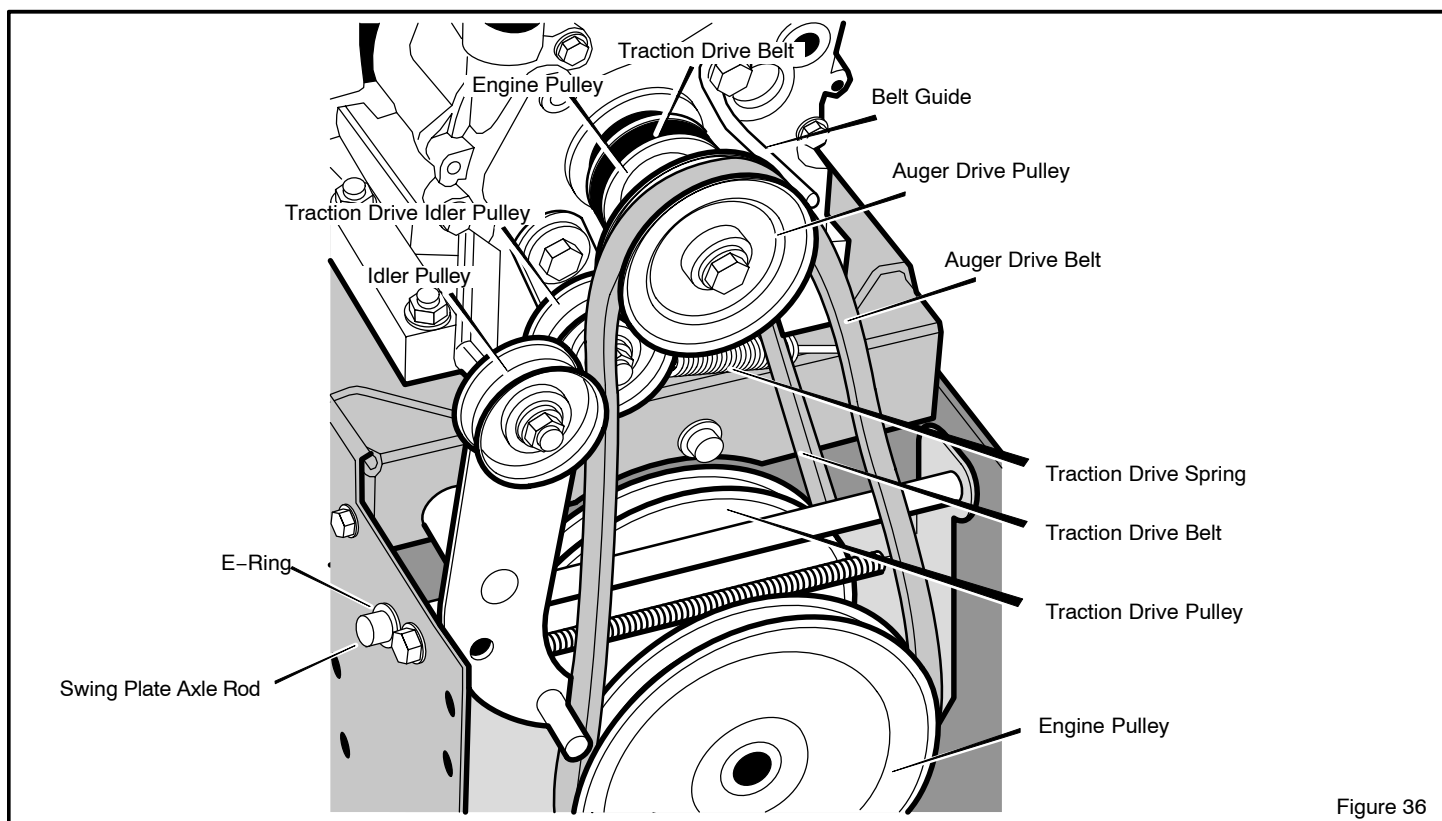

Figure 36
3. Loosen nut on auger idler pulley and move auger idler pulley towards belt about 1/8 inch (3 mm) (see Figure 36).
5. Loosen the **belt guide**. Pull the **belt guide** away from the **auger drive pulley** (see Figure 36).
9. Remove the old **auger drive belt** from the **auger drive pulley**. Replace the **auger drive belt** with an original factory replacement belt available from an authorized service center (see Figure 36).
3. Remove the **e-ring** from one end of the **swing plate axle rod**. Remove the **swing plate axle rod** to allow the swing plate to pivot forward (see Figure 36).